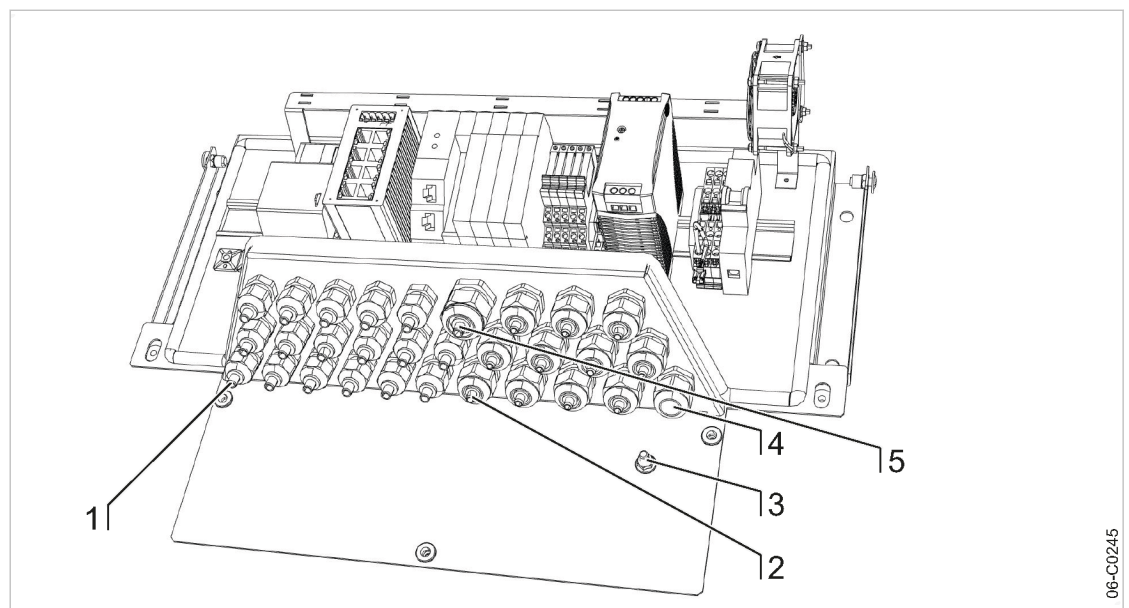

Fig. 27 Feeding cable and connecting the shielding
2. Feed the conductor or patch cable (with plug) through the plastic cable gland with EMC brass brush (Fig. 27 (5)) until the stripped part of the conductor touches the brass brush.